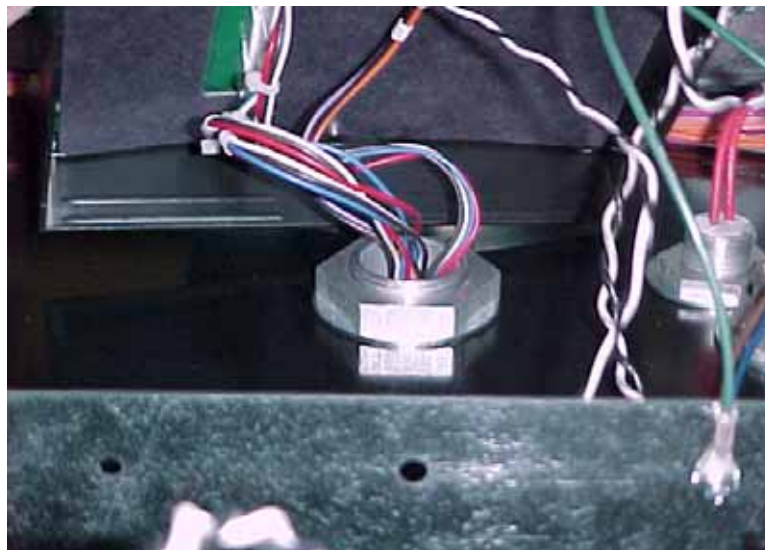

Figure 3-4 Pulsers/Nozzle Wire Harness View From Side 2
4. Install the new pulser/nozzle switch harness p/n 5-302140-HRN into the vapor barrier. See Figure 3-4. Reuse hardware that was removed earlier and ensure that a washer is used above and below the vapor barrier.